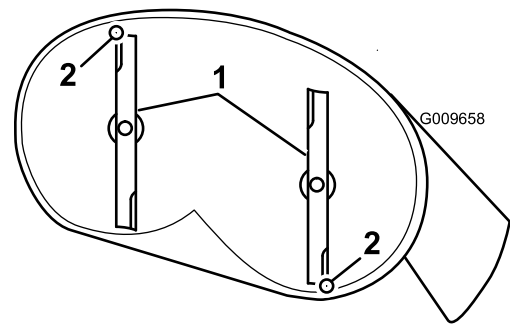
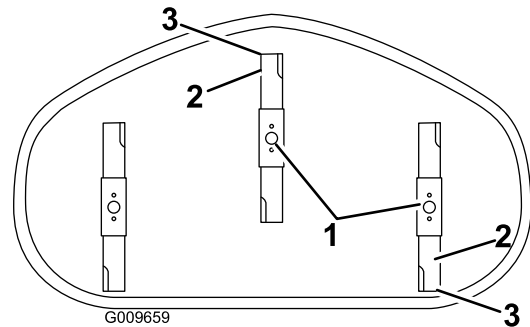

Figure 70
Figure 71
5. Measure from the tip of the front blade to the flat surface, and the tip of the rear blade to the flat surface (Figure 70 and Figure 71).
4. Carefully rotate the blades so they are facing front to rear (Figure 70 and Figure 71).
9. After adjustment, check the front-to-rear slope again, continue adjusting the nut until the front blade tip is 1.6 to 7.9 mm (1/16 to 5/16 inch) lower than the rear blade tip (Figure 70 and Figure 71).